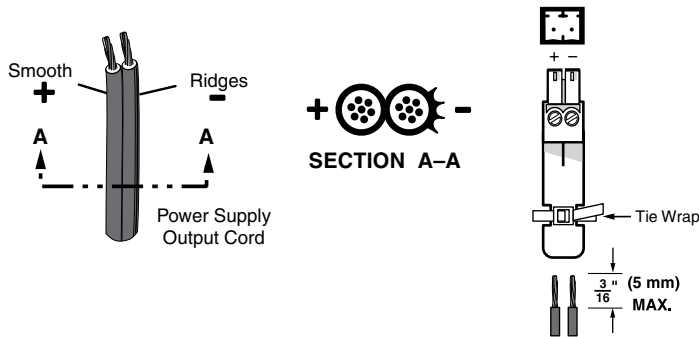

Figure 4. Power Connector Wiring
Figure 4 shows how to wire the connector. Use the supplied tie-wrap to strap the power cord to the extended tail of the connector.
- Power supply voltage polarity is critical. Incorrect voltage polarity can damage the power supply and the unit. The ridges on the side of the cord (see figure 4 on page 6) identify the power cord negative lead.